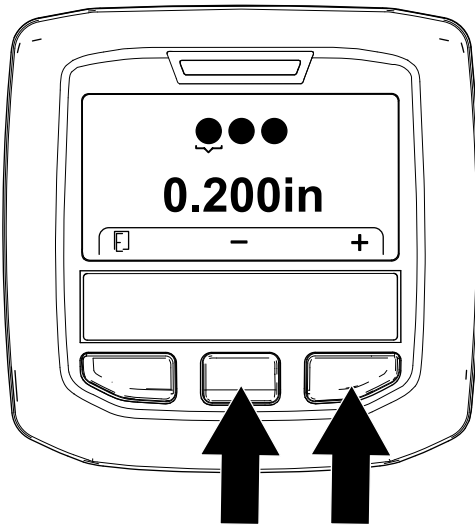

Figure 59
5. Adjust the tine diameter (Figure 59) as follows: